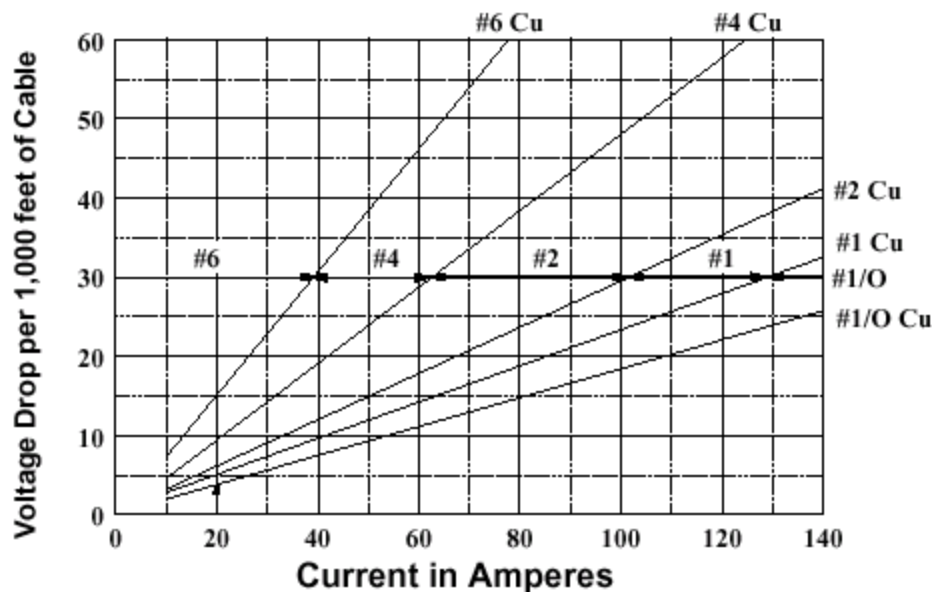

Figure 3-1: Cable voltage drop
Cable voltage drop should be calculated using Equation 3-3 and Figure 3-1.
A horizontal line at 30 V/1000 ft is shown on Figure 3-1. Typically, voltage drops in excess of this amount will not be economical due to the loss in efficiency.
Find the motor nameplate amperage on the X axis in the Figure 3-1. Move vertically to the diagonal cable size line. Move horizontally to the left to find the voltage drop per 1000 feet on the Y axis.
1. The 4 AWG cable has 25 V/1000 ft of cable voltage loss (Figure 3-1) or a total of 200 V drop in the cable at motor nameplate amps. The required surface voltage would be $980 + 200 = 1180$ V.
1. The 4 AWG cable has a voltage drop of 20 V/1000 ft (Figure 3-1) or 160 V drop in the cable at motor nameplate amps.